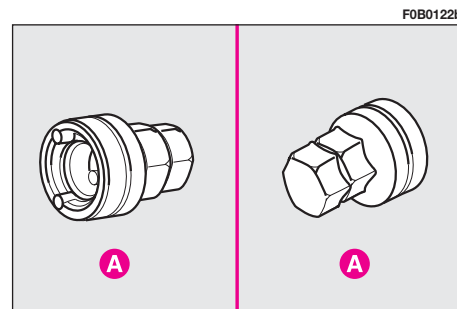

fig. 7
12) Loosen the bolts fastening the wheel to be changed by approximately one turn. Use the specific supplied tool **A**-fig. 7 to remove the antitheft bolt.